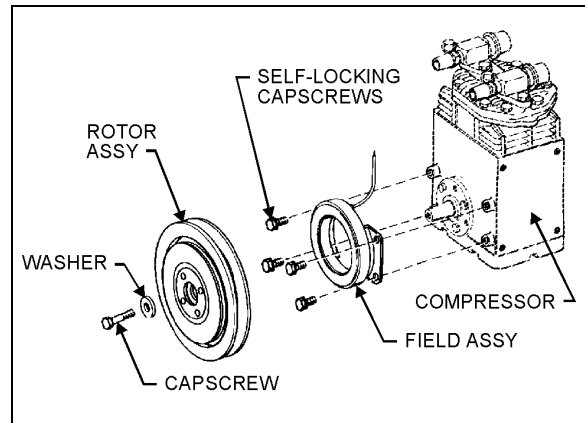

FIGURE 33: PULLEY INSTALLATION 22073
1. Position the field assembly against the compressor bosses, aligning the field mounting holes with the bolt holes in the bosses (Fig. 33). Insert four (4) self-locking cap screws, supplied with the clutch, into the bolt holes of the compressor. Tighten the cap screws to a wrench torque of 7/10 lbf•ft (9,5/13,5 N•m). Take care not to strip the threads in the compressor body.